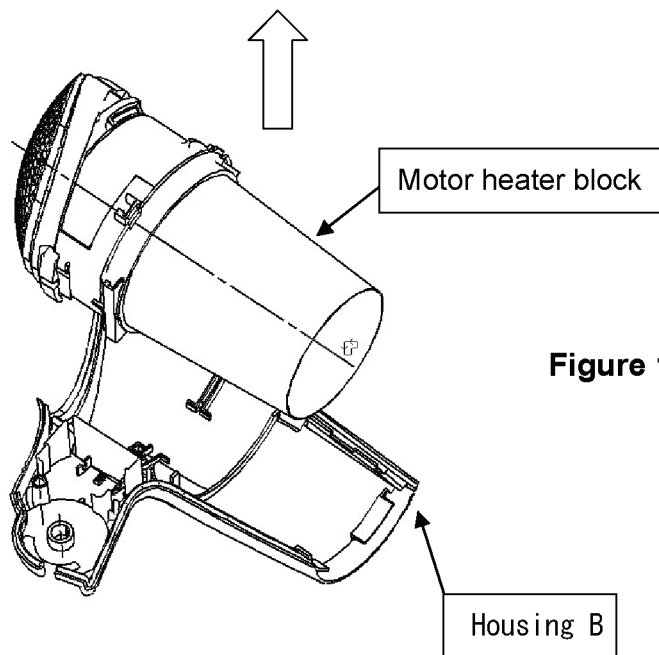

Figure 10
6. Take off a Motor heater block from Housing B as figure 10.